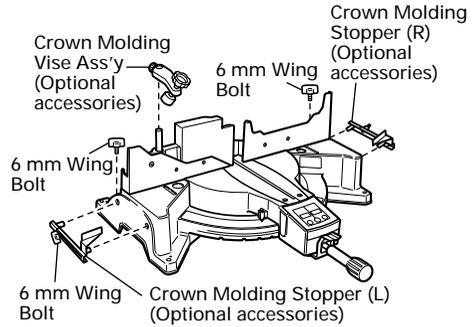

Fig. 23
- (1) Crown molding Stopper (L) and (R) (optional accessories) allow easier cuts of crown molding without tilting the saw blade. Install them in the base both-sides side to be shown in Fig. 23. After inserting tighten the 6 mm knob bolts to secure the Crown molding Stoppers.